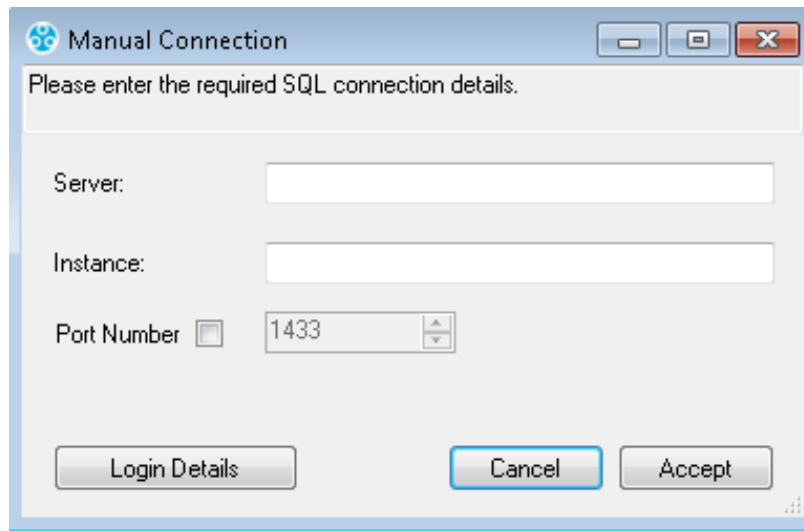

Figure 136
- This will display the **Manual Connection** dialog box. See Figure 136:
2. In the **Manual Connection** dialog box, see Figure 136 above, enter the required SQL **Server** machine name and SQL Server **Instance** name into the appropriate text fields.